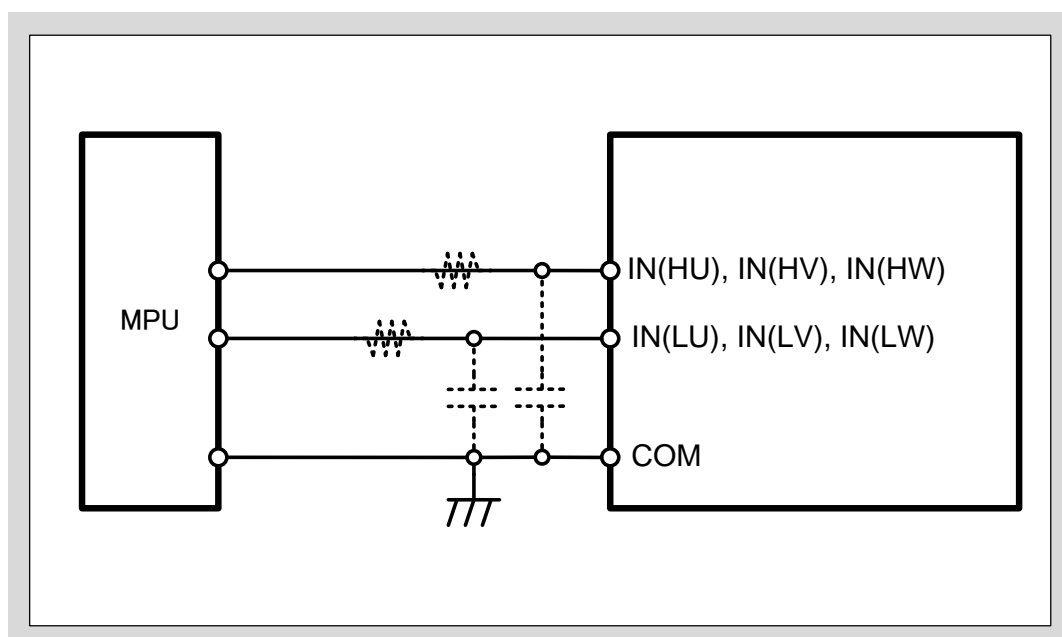
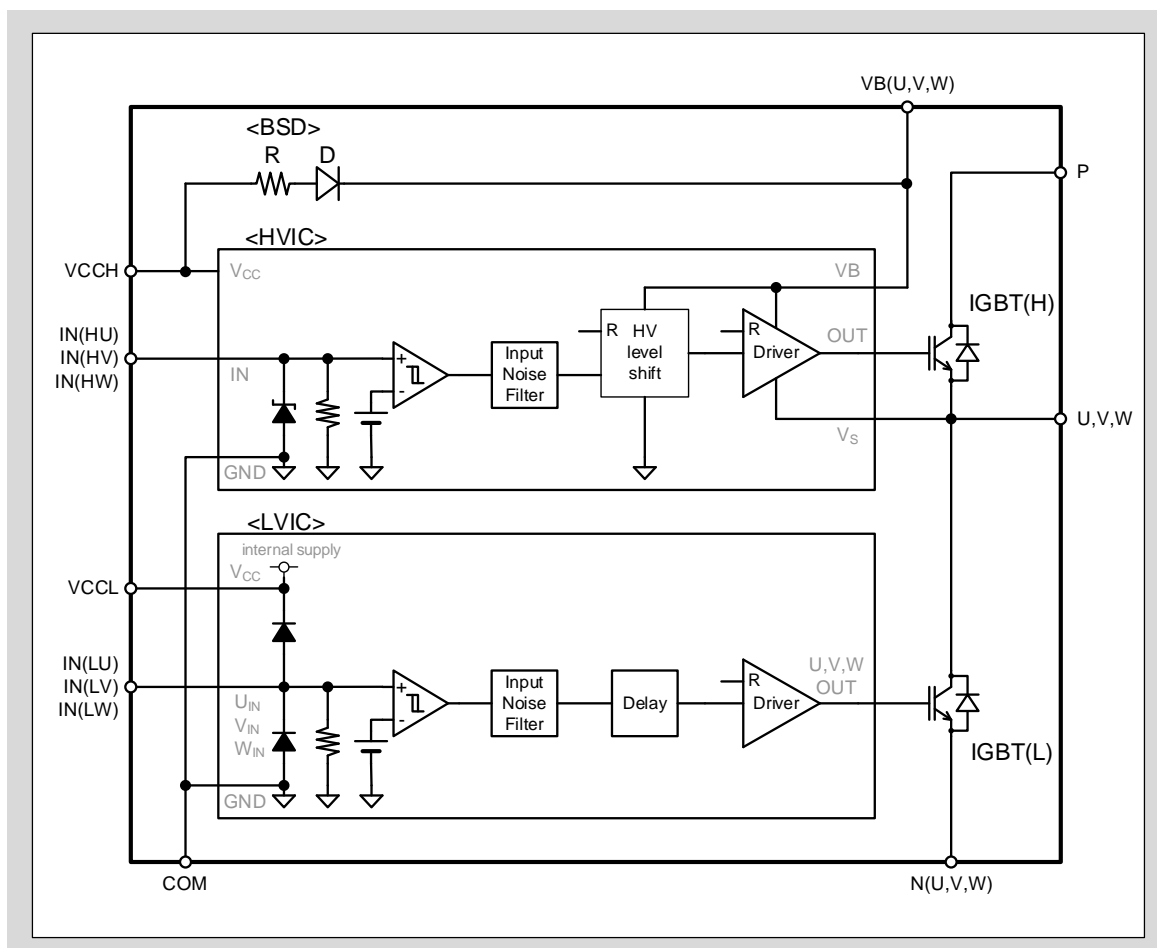

Fig.3-15 Recommended MPU I/O Interface Circuit of IN(HU,HV,HW), IN(LU,LV,LW) terminals
Fig.3-16 Input terminals IN(HU, HV, HW), IN(LU, LV, LW) circuit
- Fig.3-15 shows the input interface circuit between the MPU and the product. It is possible that the input terminals connect directly to the MPU. It should not need the external pull up and down resistors connected to the input terminals, input logic is active high and the pull down resistors are built in.
- The RC coupling at each input (parts shown dotted in Fig.3-15) might change depending on the PWM control scheme used in the application and the wiring impedance of the application's PCB layout.
- The input logic of this product is active high. This logic has removed the sequence restriction between the control supply and the input signal during startup or shut down operation. Therefore it makes the system failsafe. In addition, the pull down resistors are built in to each input terminals in Fig.3-16. Thus, external pull-down resistors are not needed reducing the required external component. Furthermore, a 3.3V-class MPU can be connected directly since the low input signal threshold voltage.
- As shown in Fig.3-16, the input circuit integrates a pull-down resistor. Therefore, when using an external filtering resistor between the MPU output and input of the product, please consider the signal voltage drop at the input terminals to satisfy the turn-on threshold voltage requirement. For instance, $R=100\Omega$ and $C=1000\text{pF}$ for the parts shown dotted in Fig.3-15.
- Fig.3-16 shows that the internal diodes are electrically connected to the VCCL-IN(LU, LV, LW) and IN(HU, HV, HW, LU, LV, LW)-COM terminals. Do not use these diodes for voltage clamp purpose otherwise the product might be damaged.